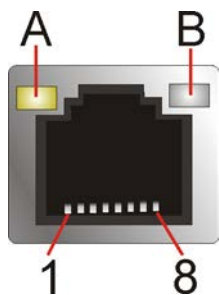

Figure 3-22: LAN Connector
- CN Pinouts: See Figure 3-22 and Table 3-18